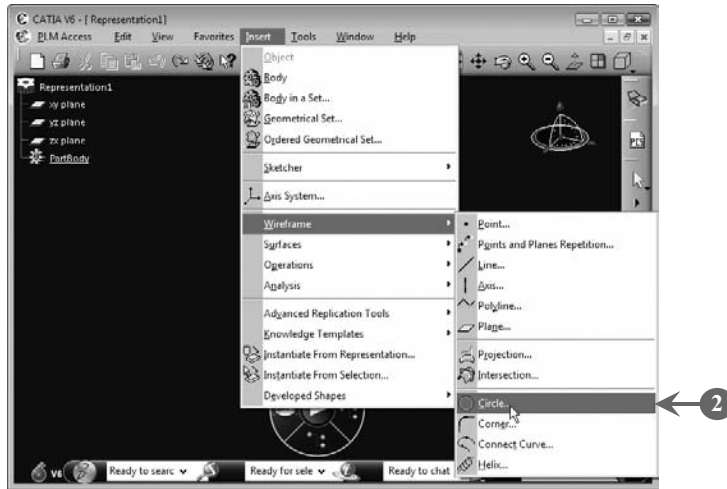

FIGURE 5.18
2. *Select* **Insert>Wireframe>Circle** from the menu bar to create a circle, as shown in **Figure 5.18**: